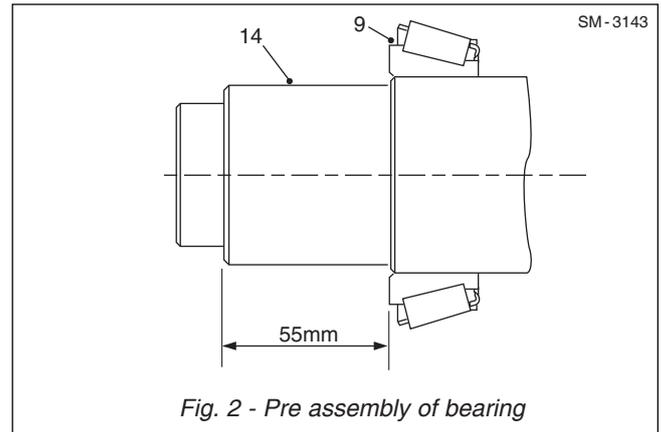

Fig. 2 - Pre assembly of bearing
6. Refer to Fig. 2, Maintain end face of cone approximately 55mm from end of spline face.
7. Insert driveshaft (14) into truck end of pivot casing until bearing assembly cone (9) seats firmly in the bearing assembly cup (8).
8. Apply loctite (3) to new seal (15) and fit over the driveshaft (14) with seal 'Lip' to bearing side. Press seal home using a mandrel.
9. Apply grease to splines of Rear thrust collar (63) and slide onto the drive shaft (14).
10. Fit new 'O'-rings (29 & 51) to Rear thrust collar (63) and fit collar over stub end of driveshaft (14) (align mating holes). Fit 2 off front bolts (19).
11. Tighten Rear bolts (19) ; alternately 1/4 - 1/2 turns, drawing driveshaft (14) hard against the inner face of Rear thrust collar (63). Shaft will be visible through inspection hole on the collar.
12. Lock Rear yoke (18) from rotation by a suitable method / bar acting on the ground. Torque Front bolts (19) to 54Nm/39 lbf ft.
13. Using special mandrel (15270104) home locking plate (16) onto Bolts (19). Remove the clamping bar.
14. Slide Front bearing assembly cone (9) onto rear end of drive shaft (14) until it seats in bearing assembly cup (8).
15. Position clamping bar assembly and screw central bolt hard against bolts (19) of Rear thrust collar (63), enabling body end bearing to be fully seated home.